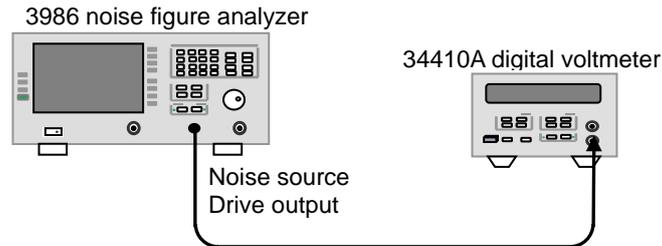

Figure 8.9 Test Block Diagram of Noise Source Drive Voltage
**Step 1.** Connect the test equipment as shown in Figure 8.9 and warm it up for 30min.